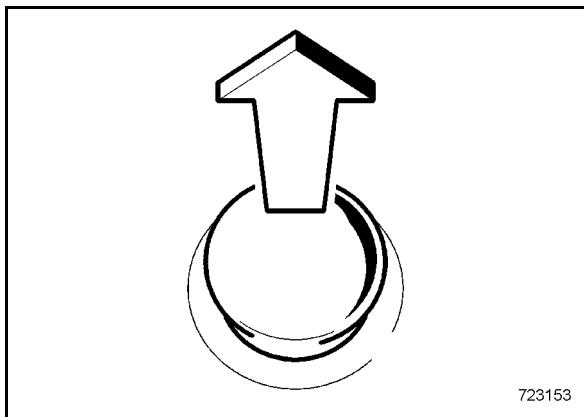

Fig. 60
- If necessary unlock the emergency stop switch (Fig. 60).